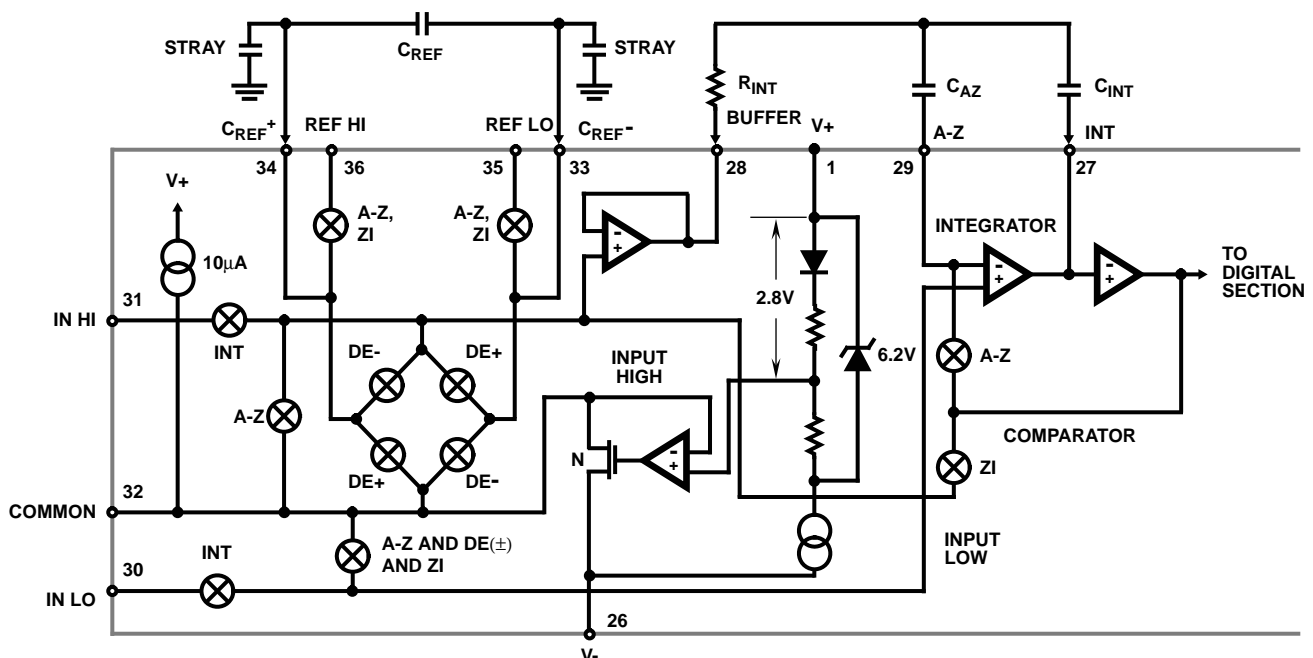

FIGURE 3. ANALOG SECTION OF ICL7136 AND ICL7137
Figure 3 shows the Analog Section for the ICL7136 and ICL7137. Each measurement cycle is divided into four phases. They are (1) auto-zero (A-Z), (2) signal integrate (INT) and (3) de-integrate (DE), (4) zero integrate (ZI).